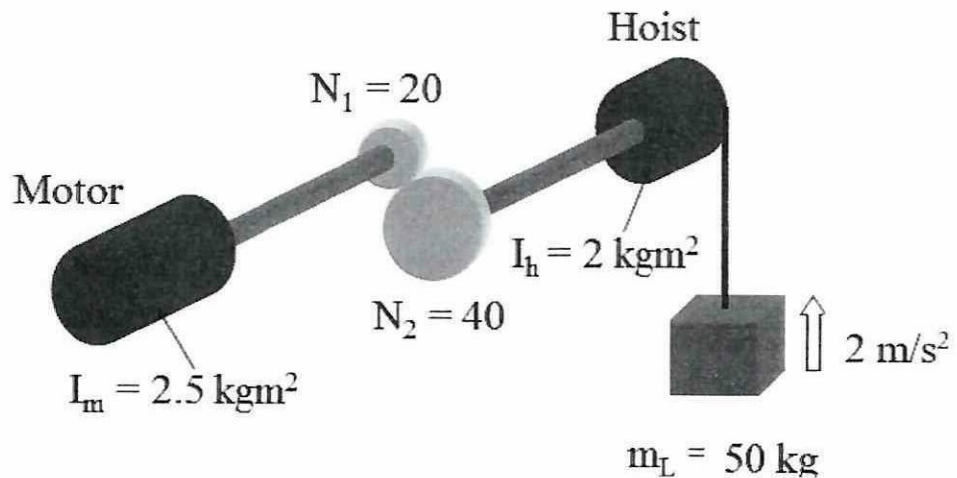

Figure Q4.1
- Q4 (b)** **Figure Q4.1** shows a gear train system used to hoist a load of 50 kg. The radius of the hoist is 1.0 m. Neglect the moment of inertia of the shaft, gear, and friction effect. The efficiency of the gear train is $\eta_{G1/2} = 92\%$. Determine the torque of the motor needed to bring the load up with an acceleration of 2 m/s^2 . (13 marks)